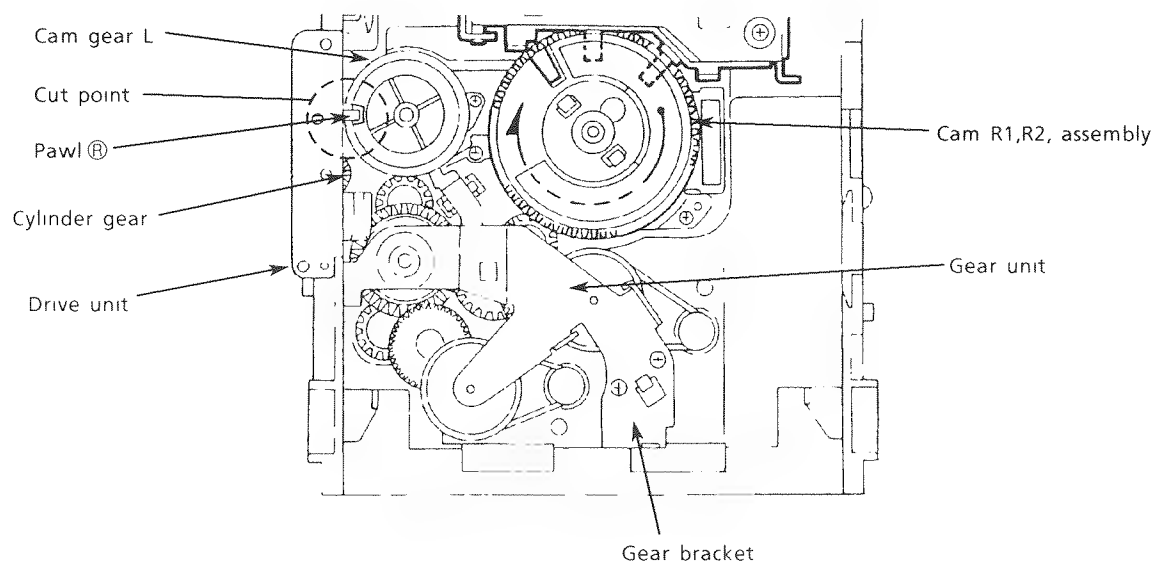

Fig. 49
[NOTE] Set the drive unit's pawl ⑧ so that it is positioned as shown in Fig. 49.